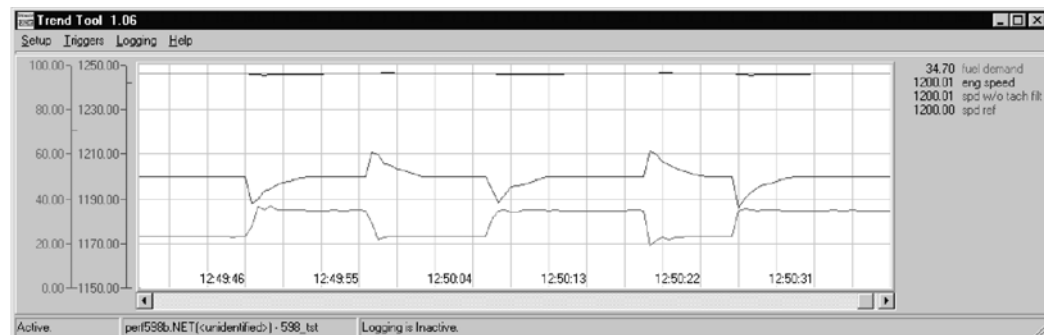

Figure 5-6. Trend Tool Trace Example 6
22. Figure 5-6 shows results of ultimately increasing Gain Ratio from 1.0 to 3.0 and decreasing Window Width from 60 rpm to 5 rpm. Overall peak rpm has been reduced approx 30 rpm. The fuel demand is steeper with little overshoot and roll-off. The speed roll-off is extended slightly by the Window Width and Gain Ratio settings. This is normal.